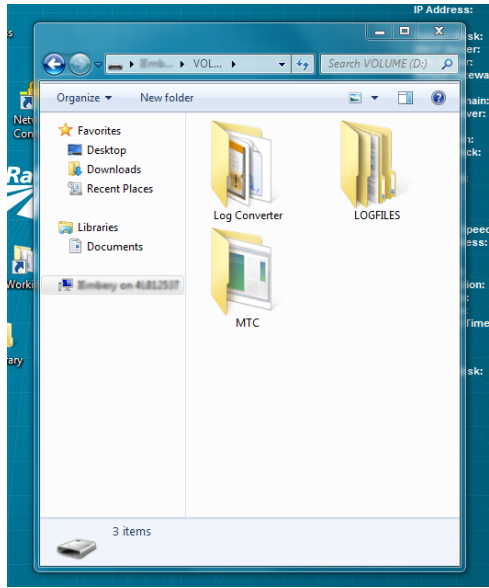

Figure 10 – SD Card Folders
- 3.4 With SD card open three folders are displayed. See Figure 10.